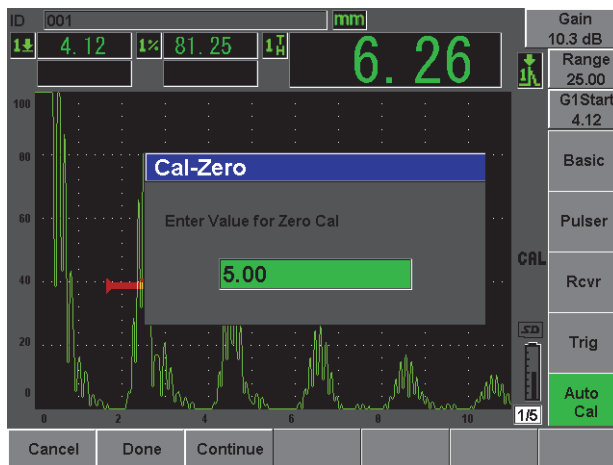

Figure 2-14 The Cal-Zero value
6. Press **Cal-Zero** (see Figure 2-14 on page 48).